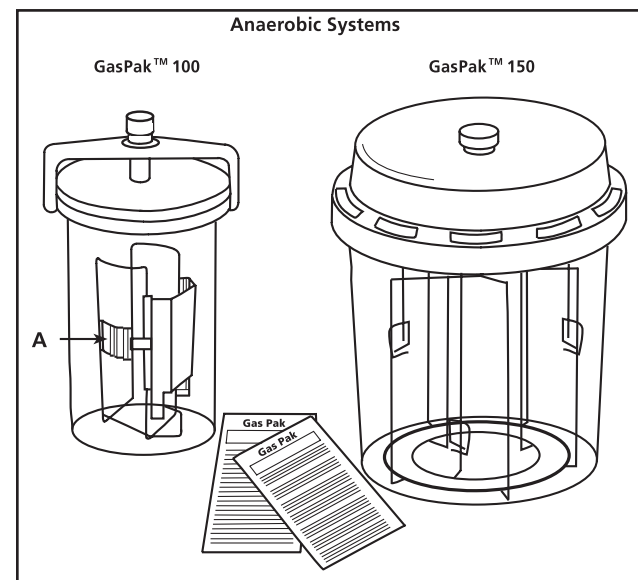

Figure 1
3. When using GasPak Plus envelopes always use an anaerobic indicator (Cat. No. 271051). Place indicator strip in center of metal indicator holder (see Fig. 1,A) with indicator pad upright. Place the rack in the GasPak jar. (**Note:** No indicator clip is available on the 150 rack.)
2. Place an anaerobic indicator in rack as described in Fig. 1 for GasPak 100 and GasPak 150 Anaerobic Systems, step 3. If using Dry Anaerobic Indicator Strips, dip indicator pad in water before placing in rack. Place the rack in the GasPak jar.